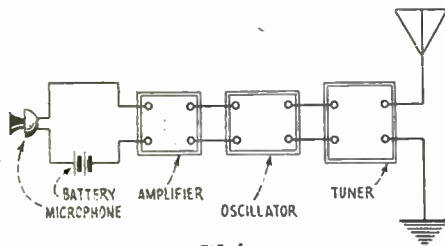

FIG. 4
Fig. 4 Complete circuit diagram of 3-tube Regenerative Interflex Circuit. (1) is the Flexo-Coupler, (2) crystal detector, (3) variable condenser, (4) Small balancing condenser, (5) detector-coupled audio amplifier tube, (6) second audio tube, (7) third audio tube, (8) and (9) filament control jacks, (10) Amperites, (11) audio transformers, (12) fixed condenser, (13) carbon type rheostat.
Figs. 4, 5, 6, 7 and 8 show the complete set. Fig. 4 shows the complete wiring diagram. This is exactly the same as the fundamental circuit shown in Fig. 1, except that there has been added a two-step amplifier, with two automatic filament controls. For the two last amplifier tubes the automatic resistances 10 are excellent, rheostats not being necessary at all.
Fig. 4. An interesting feature of this circuit is the fact that each of the R.F. stages has its plate supply by-passed to the filament through a .5 mf. condenser.
Fig. 4 gives a schematic layout of the various instruments used in transmitting by radio telephony.
To investigate further the effect of the primary diameter on the coupling, the curves shown in Fig. 4 were computed. The same secondary coil as used in obtaining Fig. 3 was assumed, having a self-inductance of 164.2 microhenries, and calculations were performed, various primary coils of different diameters but of the same number of turns being assumed.
In these curves (Fig. 4) the primary coil was always at the center of the secondary, that is, their center lines coincided. The calculations were started, with the assumption that the primary coil was to have always 12 turns of number 20 D.C.C. wire on it. The diameter of the primary was taken as small at first and gradually increased. The line AB in Fig. 4 indicates a case where the primary has the same diameter as the secondary. Of course, this is physically impossible, but the point is indicated to show where the maximum value of mutual inductance and coefficient of coupling are obtained.
the point, let us consider the curve marked A in Fig. 3, and the curve marked C in Fig. 4. The first of these curves was found experimentally, and the second was calculated. The secondary coil was the same for each of these curves. The primary coil for curve A, Fig. 3, was 3 inches in diameter, and was placed at the center of the secondary.
The curves in Fig. 4 assumed the primary always at the center of the secondary. Therefore, it will be seen, by following the dotted line vertically in Fig. 4, that for a primary diameter of 3 inches the coefficient of coupling obtained from the curve is 65.5 per cent. This is indicated at the point C in Fig. 4. The measured value of the coupling, obtained from the point D in Fig. 3, is 84 per cent. There is a considerable difference between these two values, which must be due to the capacity of the coils and the capacity between the two coils.
This zero value of frequency corresponds to direct or constant current. The mutual inductance at zero frequency is the true mutual inductance, for at zero frequency the effect of the capacity between the coils is nil. The agreement between the value indicated by the point A in Fig. 5 (the mutual inductance at zero frequency) and the calculated value indicated by the point D of Fig. 4 is very good. In fact, both points show a value of 35.5 microhenries for the mutual inductance. The curves of Fig. 4 were calculated without including the capacity of the coils, which, of course, is not known exactly.
The point A, at zero frequency, agrees with the calculated point D of Fig. 4. Note that M increases with the frequency.